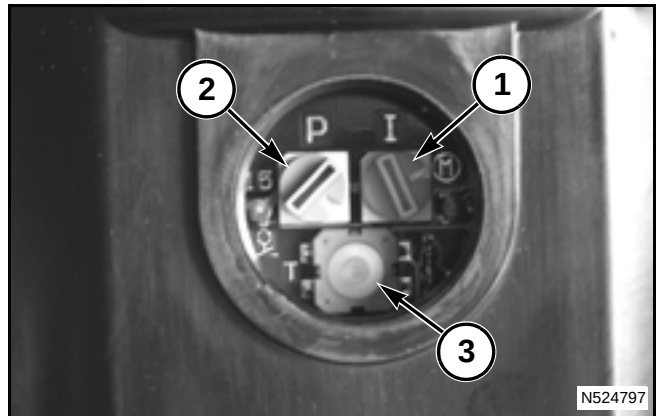

FIG. 71
FIG. 71: The on time rotary switch (1) controls the length of time the auto lube system lubricates components. The on time rotary switch adjusts the on time in two minute increments.